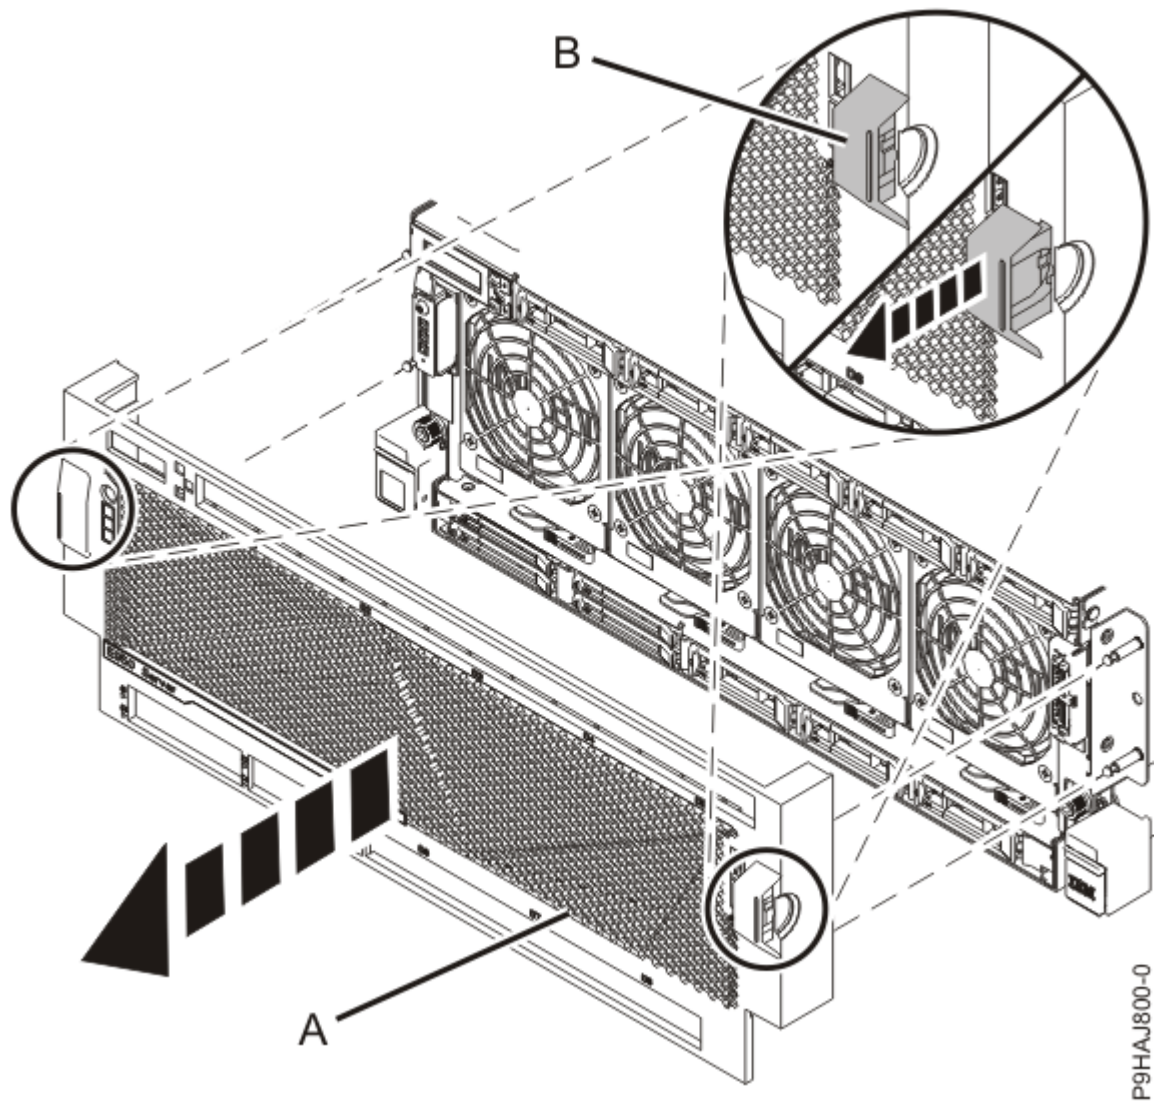

Figure 10. Removing the front cover
2. Place your fingers on the indentations **(B)** located on both sides of the cover, as shown in Figure 10 on page 12.
3. Pull the cover **(A)** away from the system, as shown in Figure 10 on page 12.